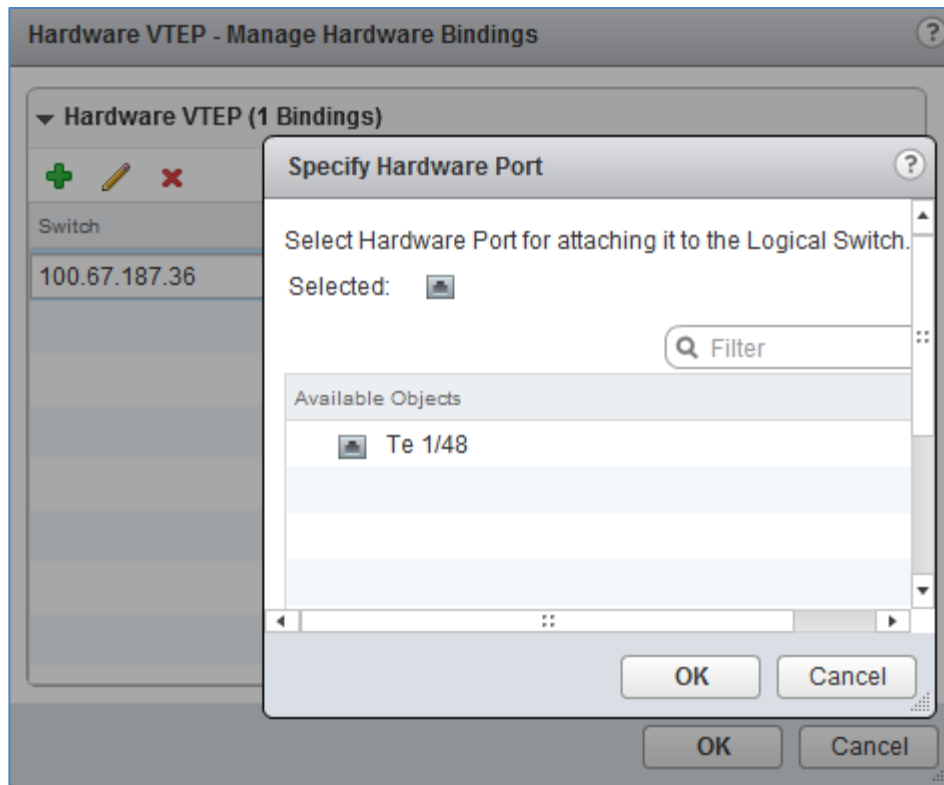

Figure 100 Manage Hardware Bindings – Specify Hardware Port window
- b. In the **Port** column, click **Select**. Ports that are assigned to vxlan-instance 1 on the S4048-ON switch appear as shown in Figure 100. In this example, it is port **Te 1/48**.